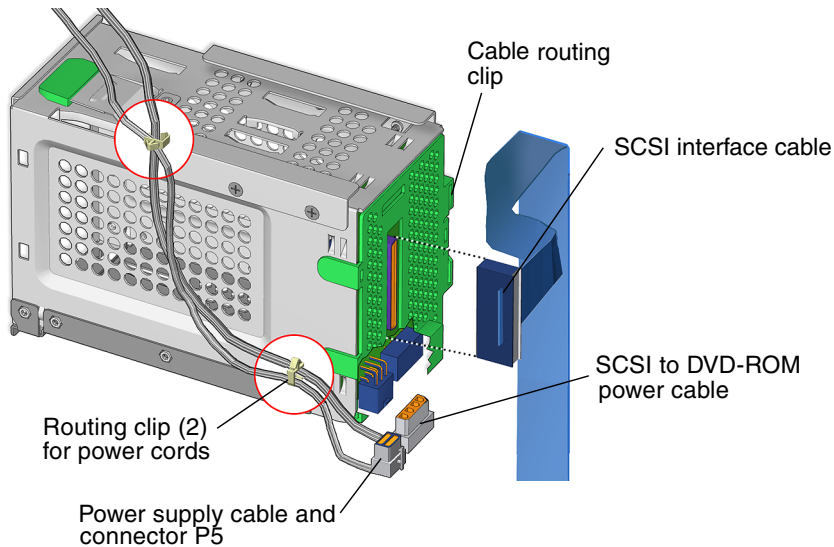

FIGURE 14-15 Connecting the SCSI interface cable
1. Connect the interface cable to the SCSI backplane (FIGURE 14-15).
7. Connect the 4-pin SCSI to DVD-ROM power cable (FIGURE 14-15).
9. **Connect 6-pin power cable connector P5 to the SCSI backplane** (FIGURE 14-15).